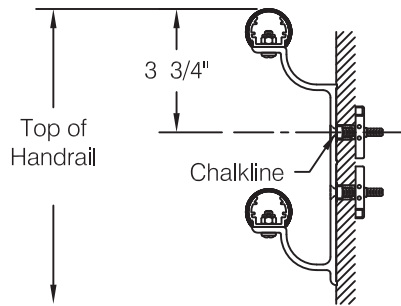

fig 1
Step 1: Determine top of handrail height and snap a chalk line 3 3/4" below for centerline of upper mounting hardware, see **fig 1**.